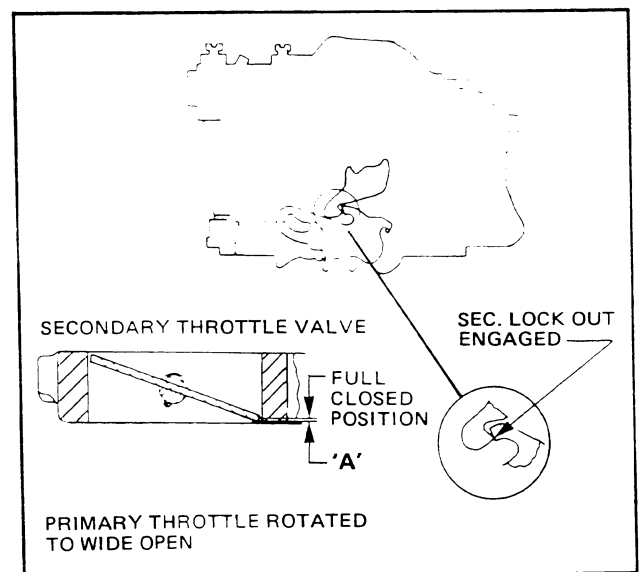

Figure 6C-150
2. Slowly depress accelerator pump plunger until secondary spring resistance is felt. The distance travelled from rest position should be to specifications (Fig. 6C-151).